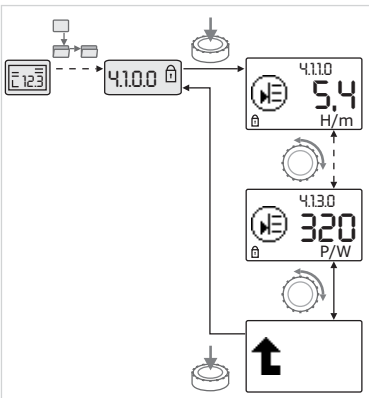

Fig. 33: Calling up information
- Turn the red button to access the "Information" menu elements in the current sub-menu (see Fig. 33). For an explanation of the settings represented by the symbols, see the table in Section 8.7 "Menu elements reference" on page 74.